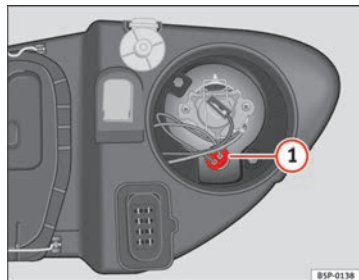

Fig. 189 Side lights
- Extract the bulb holder ⇒ fig. 189 **1** outwards.